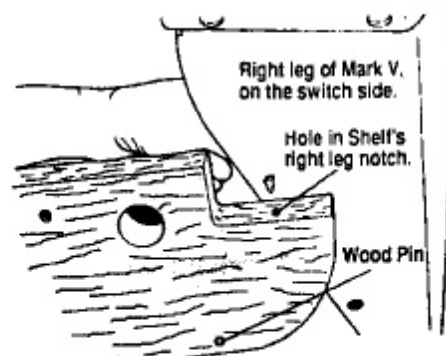

Fig. 1
1. Use a hammer to gently tap in the wood pin (3) into the shelf's counterbored hole, located near the shelf's right front edge. See the diagram on the front page, and also Fig. 1.
2. Place a flat washer (2) on a lag bolt (1). Working on the switch/speed dial side of the Mark V, insert the lag bolt through the top hole of the right leg, from the inside, as shown in Fig. 1.
3. Thread the lag bolt in the hole located in the shelf's right leg notch. See Fig. 1. Use a 7/16" wrench to engage the lag bolt threads into the shelf about halfway. Do not tighten yet.